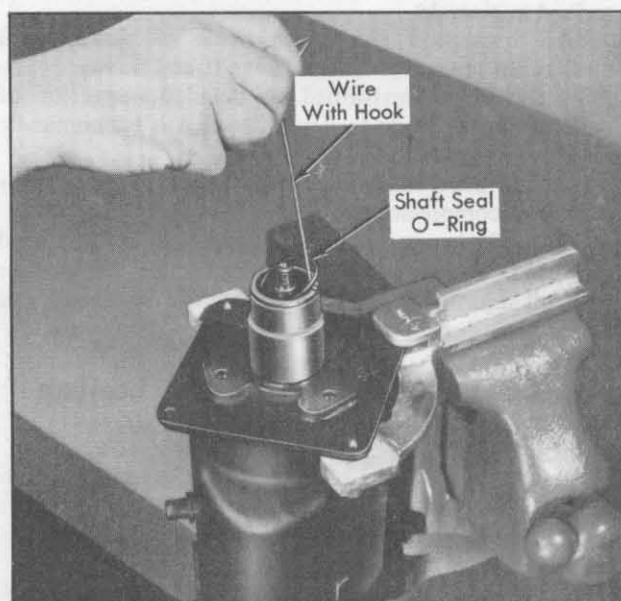

Fig. 1-71 Removing Shaft Seal O-Ring
7. Remove seal seat O-ring from compressor neck. A wire with a hook formed on the end may be used, Fig. 1-71.